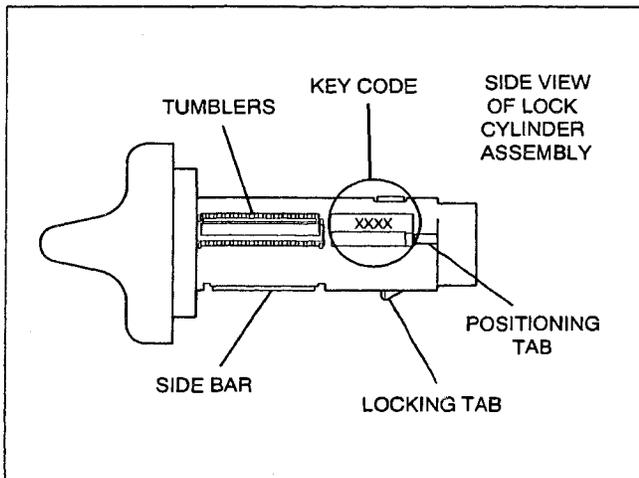

Figure 13- Location of Key Code
19. Record "Key Code " from old lock cylinder. (See Figure 13)